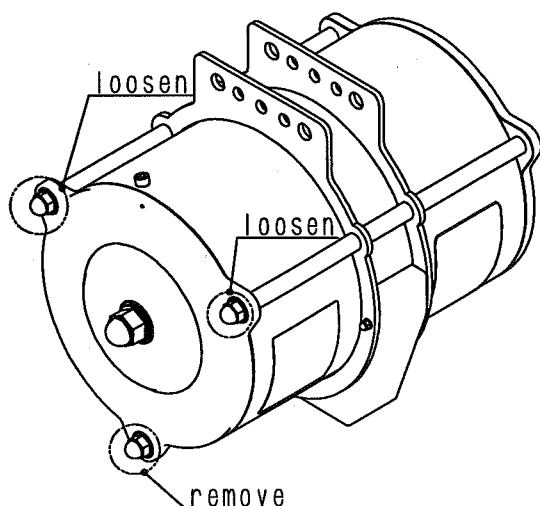
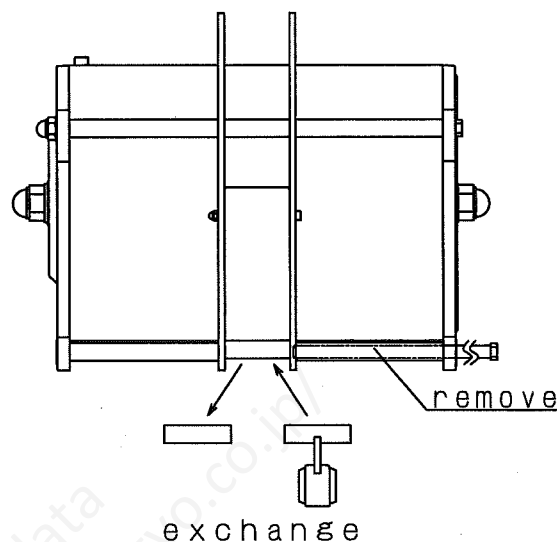

Fig.7
Fig.8
1. Loosen 3 U-nuts of End cap(Fig.7), and remove the U-nuts and bolt for lower part. (Fig.8)